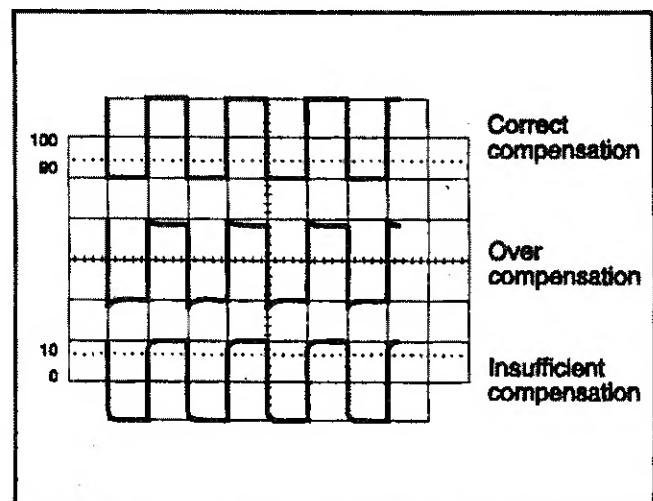

Fig. 6. Probe Compensation Adjustment
4. Adjust compensation trimmer on probe for optimum square wave (minimum overshoot, rounding off, and tilt). Refer to Fig. 6.